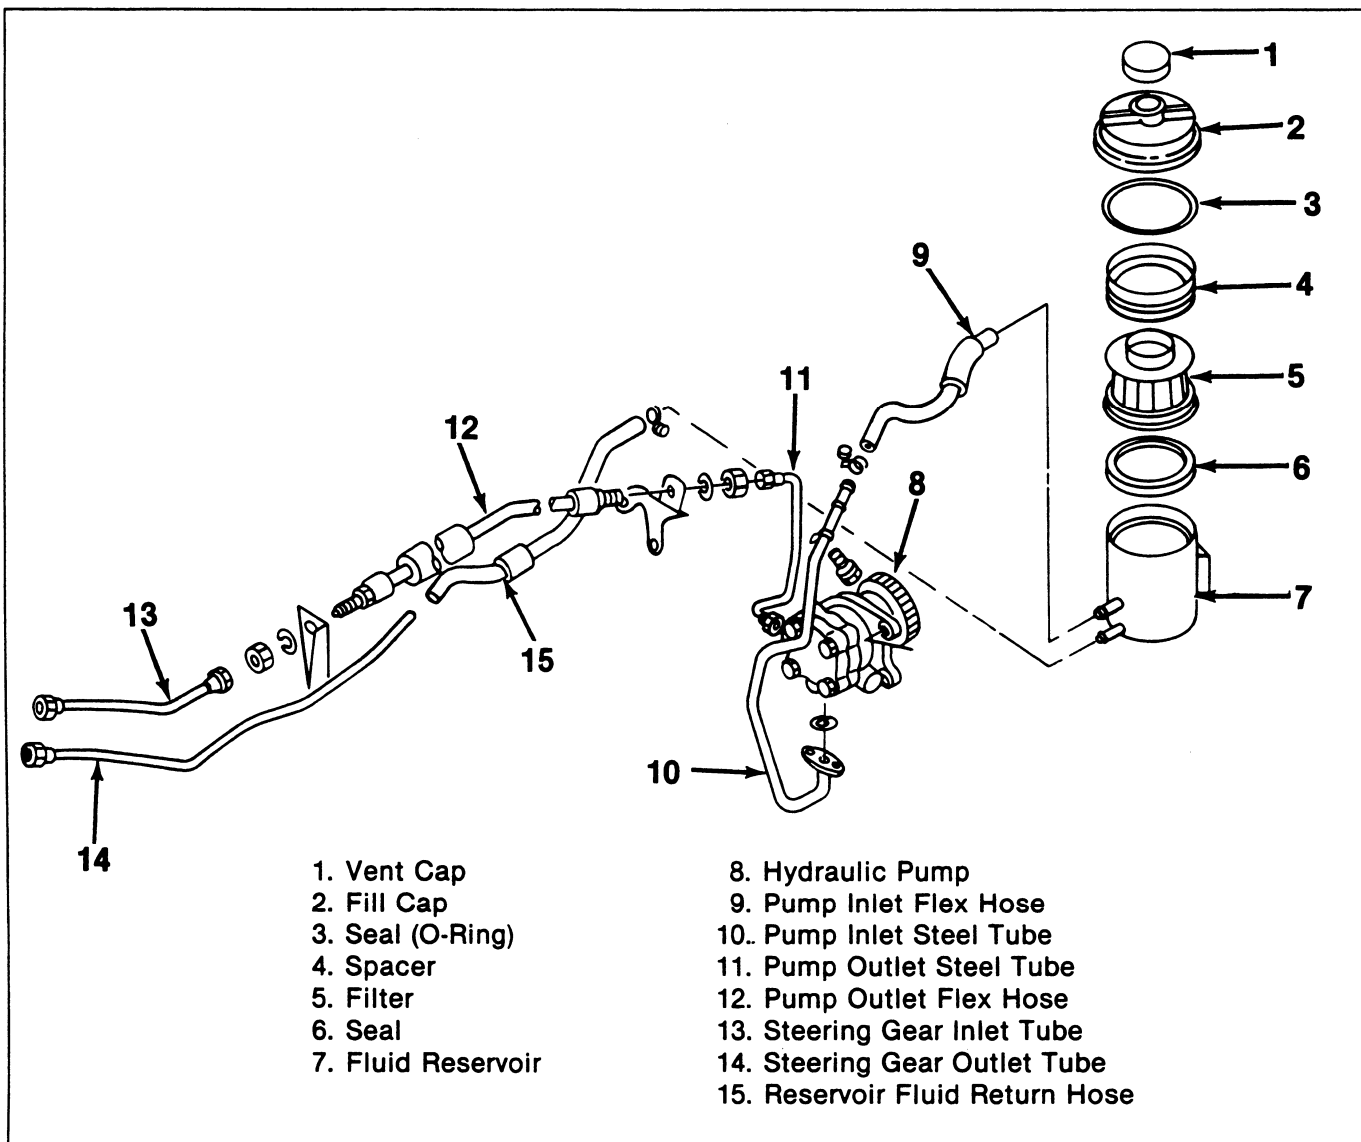

Figure 2. Power Steering Fluid Reservoir
1. Remove the vent cap (1), fill cap (2) and seal (O-ring) (3) (figure 2).
3. Clean the filter (5) in clean solvent. Then blow filter dry with compressed air.
Refer to figure 2.